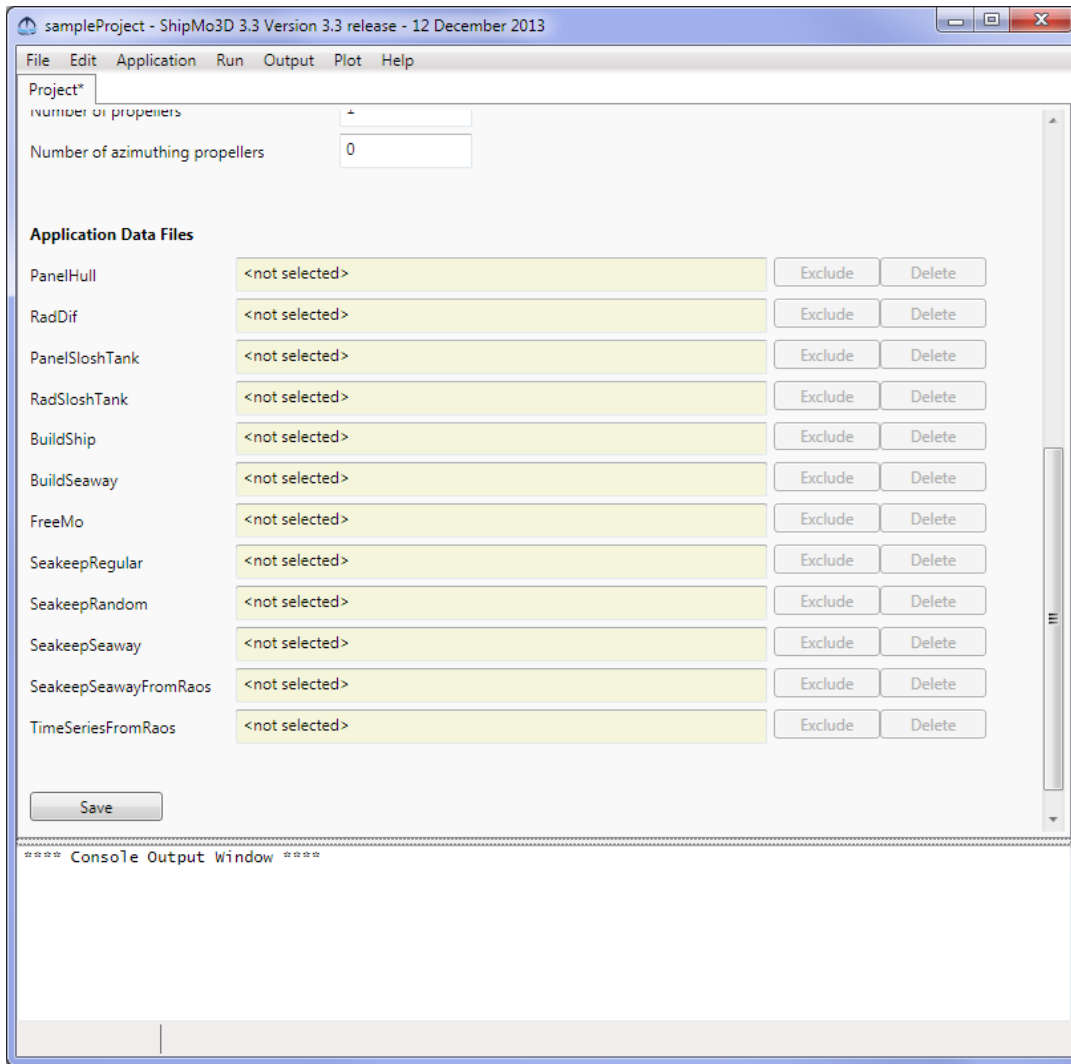

Figure 3: List of application data in the project
- ☛ A list of all applications can be seen under the "Application" menu as seen in Figure 3.
- ★ Scroll to the bottom of the “Project” pane as seen in Figure 3.